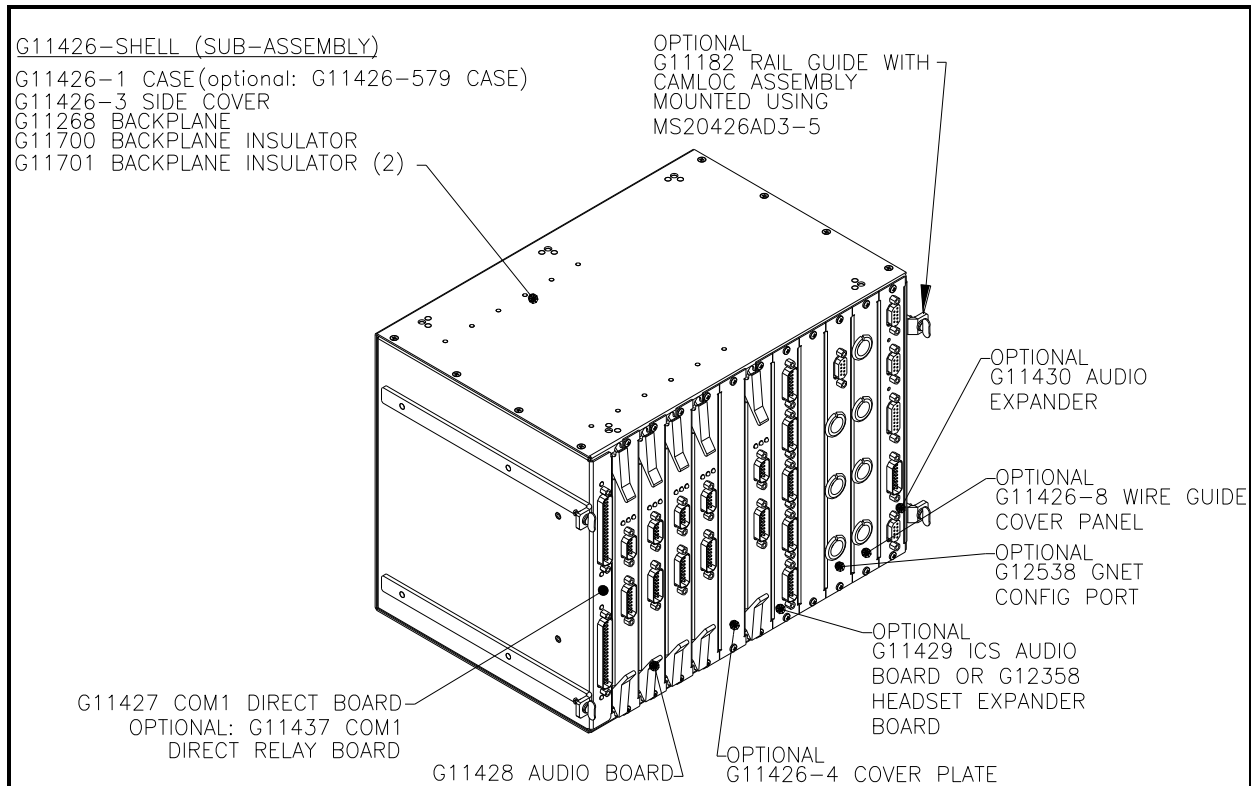
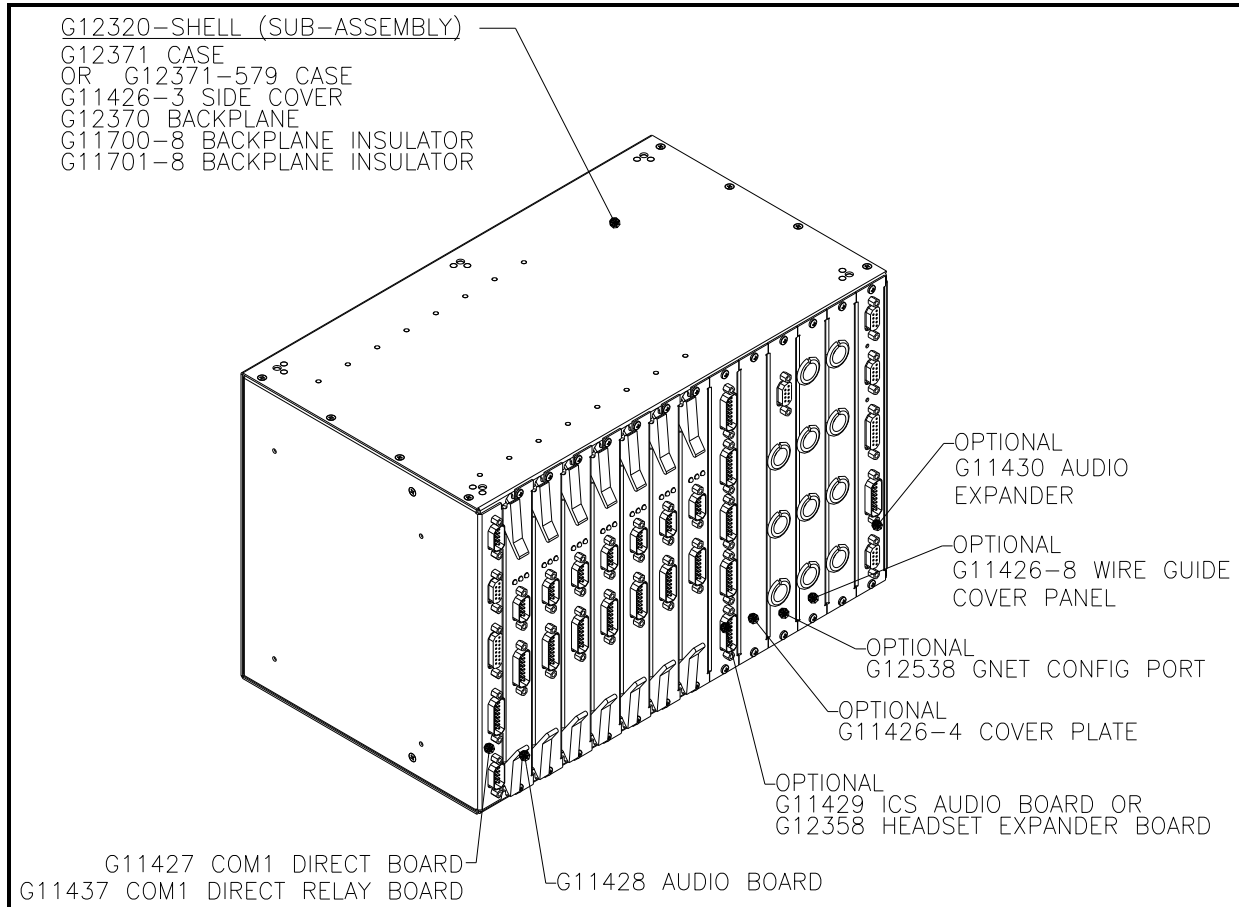

Figure 15: Typical 6 Slot Router Configuration
Figure 16: Typical 8 Slot Router Configuration
- b. The Audio Control Boards (P/N G11428) in the Router are field replaceable. The Audio Control Boards as shown in Slots 1-6 of Figure 15 and Slots 1-8 in Figure 16 are physically identical and may be interchanged for diagnostic and spares purposes.
Parts List for Figure 15:
Parts List for Figure 16: